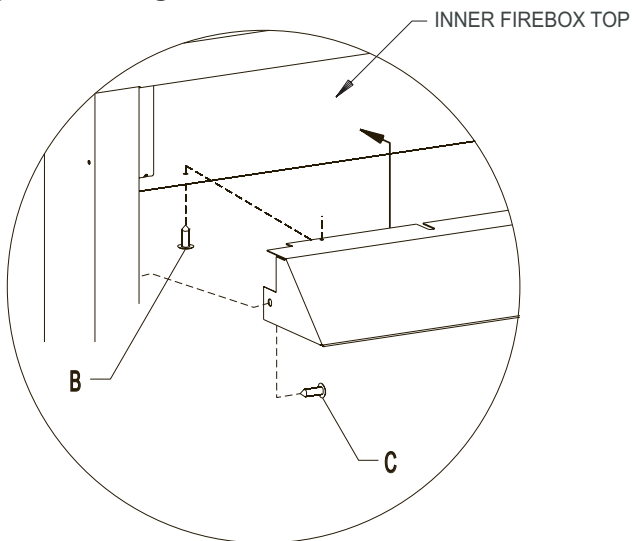

Figure 13
2. Place the top hood flange on top of the inner firebox top, then install three screws through the firebox top from below and screw into the pilot holes in the hood flange (B).
3. Install one (1) screw at each end of the hood as shown (C).
**Caution:** All hoods must be installed prior to operation of appliance. See Figure 13.